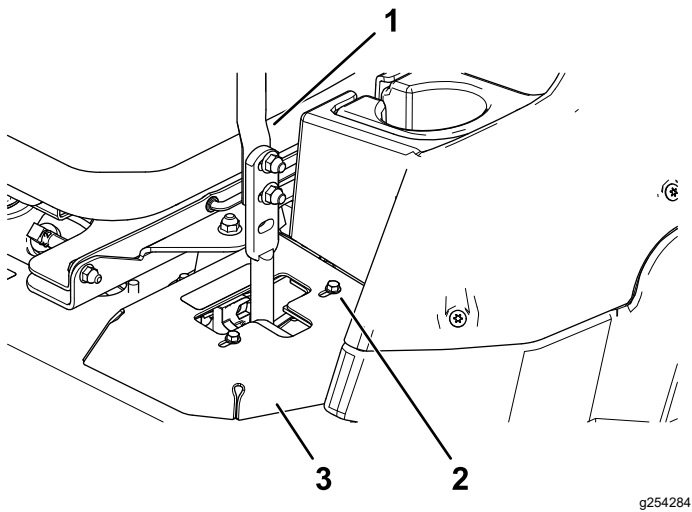

Figure 50
- If the machine tracks to the right, loosen the bolts and adjust the left stop plate rearward on the left T-slot until the machine tracks straight (Figure 50).
- If the machine tracks to the left, loosen the bolts and adjust the right stop plate rearward on the right T-slot until the machine tracks straight (Figure 50).
8. Tighten the stop plate (Figure 50).